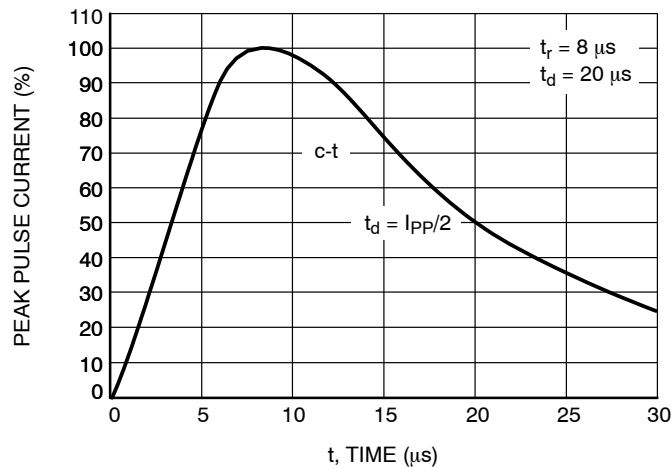

Figure 6. Pulse Waveform (8/20 μs)
- Pulse waveform per Figure 6.